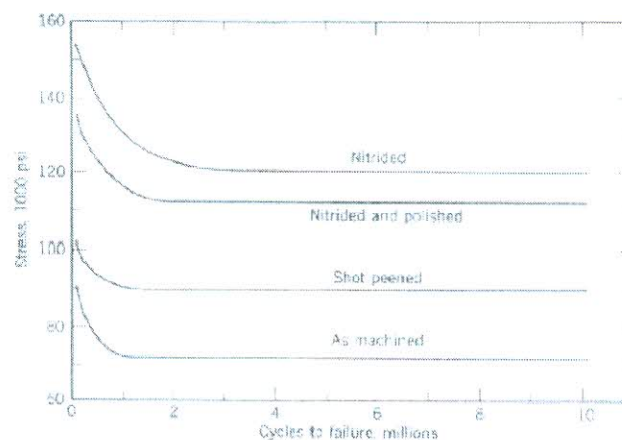

Figure 7 : Bending fatigue test results on sections from crankshafts:
6. [a] Figure 7 gives a plot of stress (endurance limit) versus cycles to failure for some methods of surface treatment done to sections of a crankshaft.